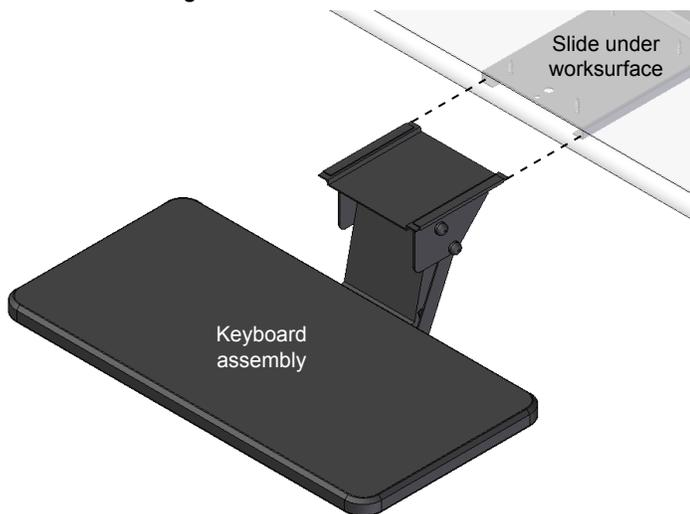

Figure 3A
2. Slide the keyboard assembly into the slide. **Figure 3A.**